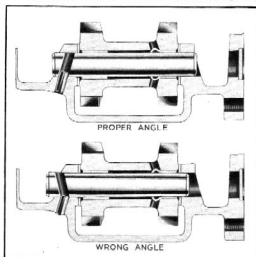

Fig. 10—Reverse Idler Gear, Shaft and Lock Pin
2. Install the idler shaft, making sure that the lock pin hole in the shaft lines up with the hole in the case at the same angle. (See Fig. 10.)